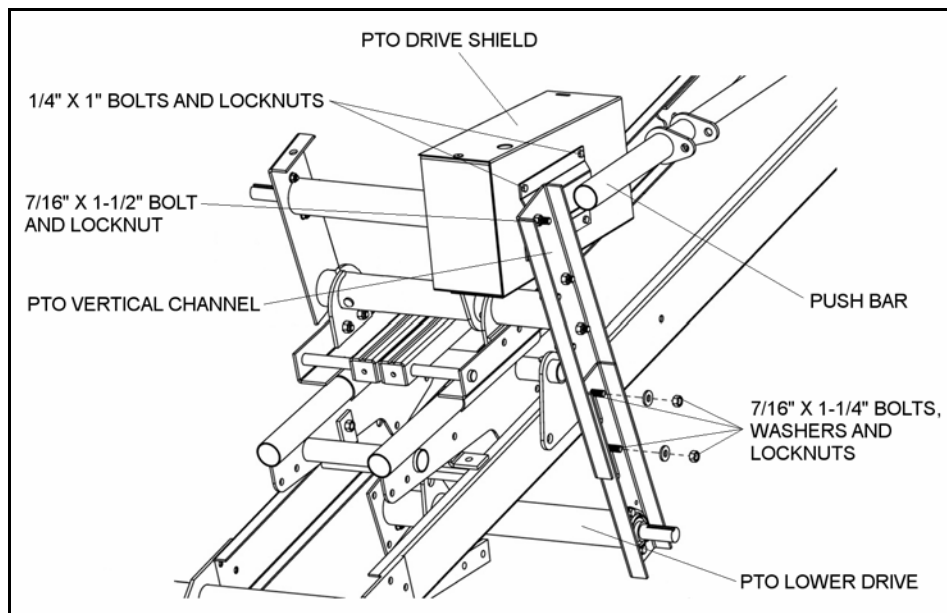

Figure 3.44
6. Attach push bar to top of PTO vertical channel with one 7/16" x 1-1/2" bolt and locknut (see Figure 3.44).
7. Bolt drive shield to push bar with four 1/4" x 1" bolts and locknuts (see Figure 3.44).